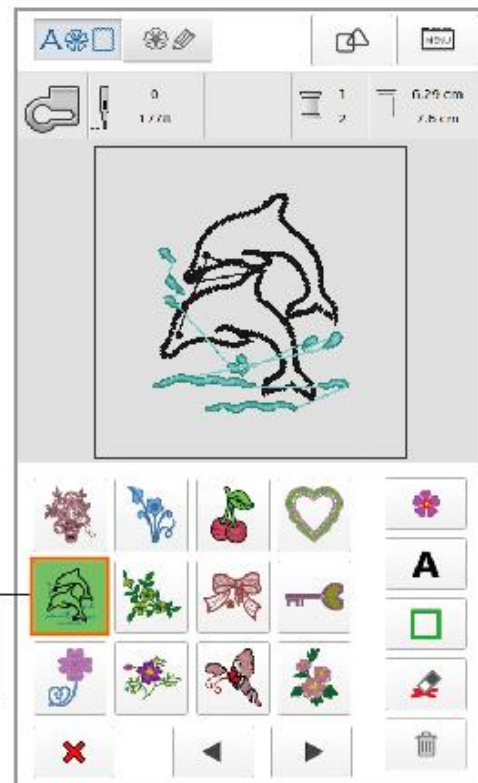

Figure 2
① Turn on the power and enter the main interface of embroidery
② Click the built-in embroidery pattern button to enter the pattern selection interface in Figure 2